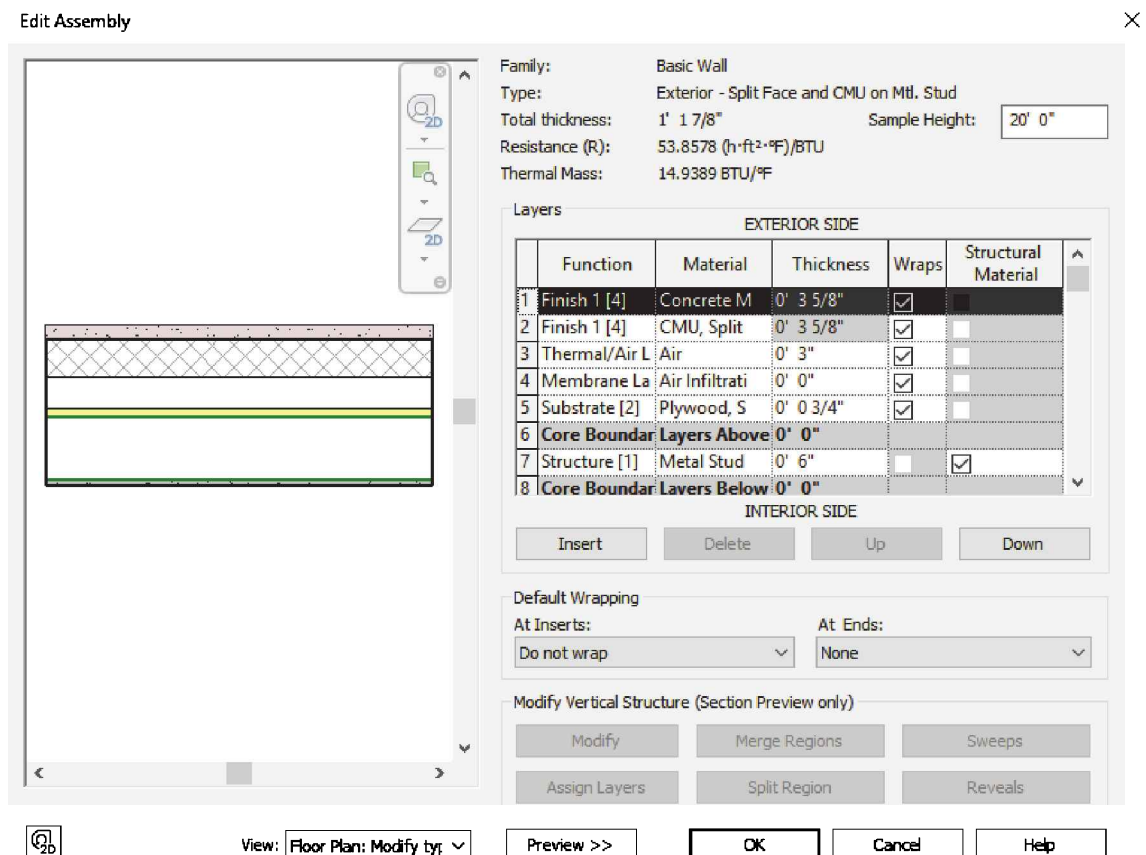

FIGURE 5-2.12 Edit Assembly
24. Finally, you are in the *Edit Assembly* dialog box. This is where you can modify the construction of a wall type. Click **<<Preview** to display a preview of the selected wall type (Figure 5-2.12).
Things to notice (Figure 5-2.12):